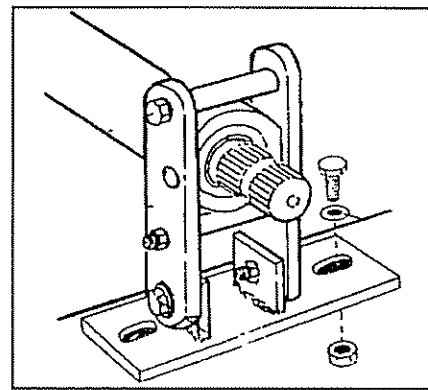

FIGURE 7
2. Put 1-3/8-21 splined end of jackshaft through bearing in jackshaft stand. Assemble stand to tongue with two bolts. See **Figure 7**.